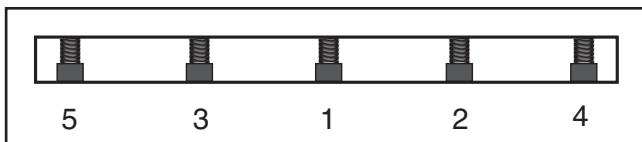

Figure 37. Gib bolt tightening sequence.
- Slightly tighten the gib bolts, starting at the middle and working your way to the ends by alternating left and right, as illustrated in **Figure 37**.